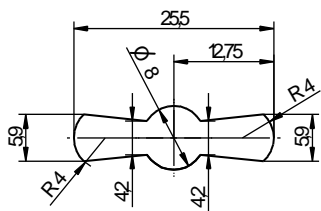
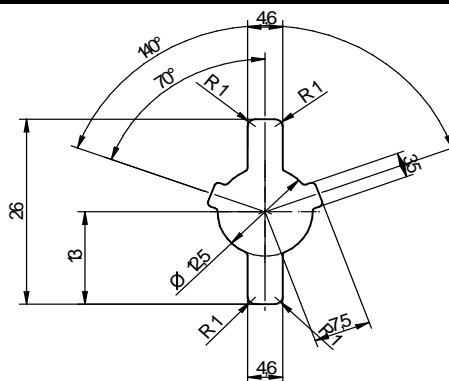

Fig. 1: Key guide 86101
Fig.2: Key carrier guide 86102
- Use of the Kaba Mauer key guide (see Fig. 1) or of the Kaba Mauer key carrier guide (see Fig. 2) is recommended. Considering DIN 2768-mH, the keyhole in the door of the secure storage unit should be dimensioned accordingly (see Fig. 1 or 2).